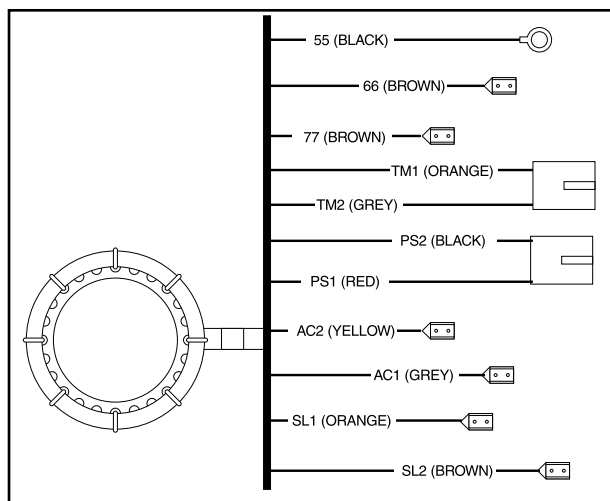
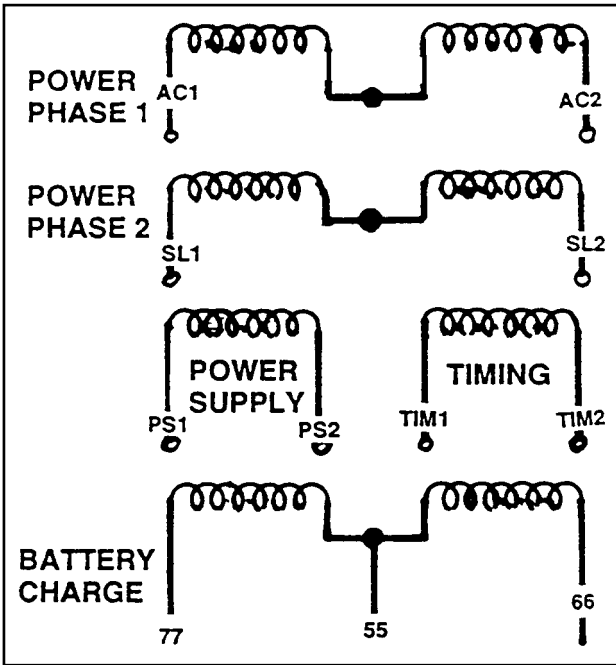

Figure 4. Stator Pictorial View
Figure 5. Schematic- Stator Windings
The 2-phase Stator is made up of six (6) windings, with leads brought out as shown in figure 4. Figure 5 is a schematic representation of each stator winding. Note that there are two (2) power phase windings (Leads AC1, AC2, SL1 and SL2 ); a timing winding (Leads TIM1 and TIM2); a power supply winding (Leads PSI, PS2); and a dual battery charge winding (Leads 55, 66, 77).